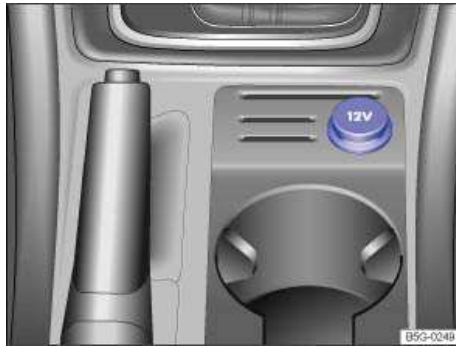

Fig. 119 In the lower center console: 12 Volt socket.
- In the lower center console ⇒ fig. 119.